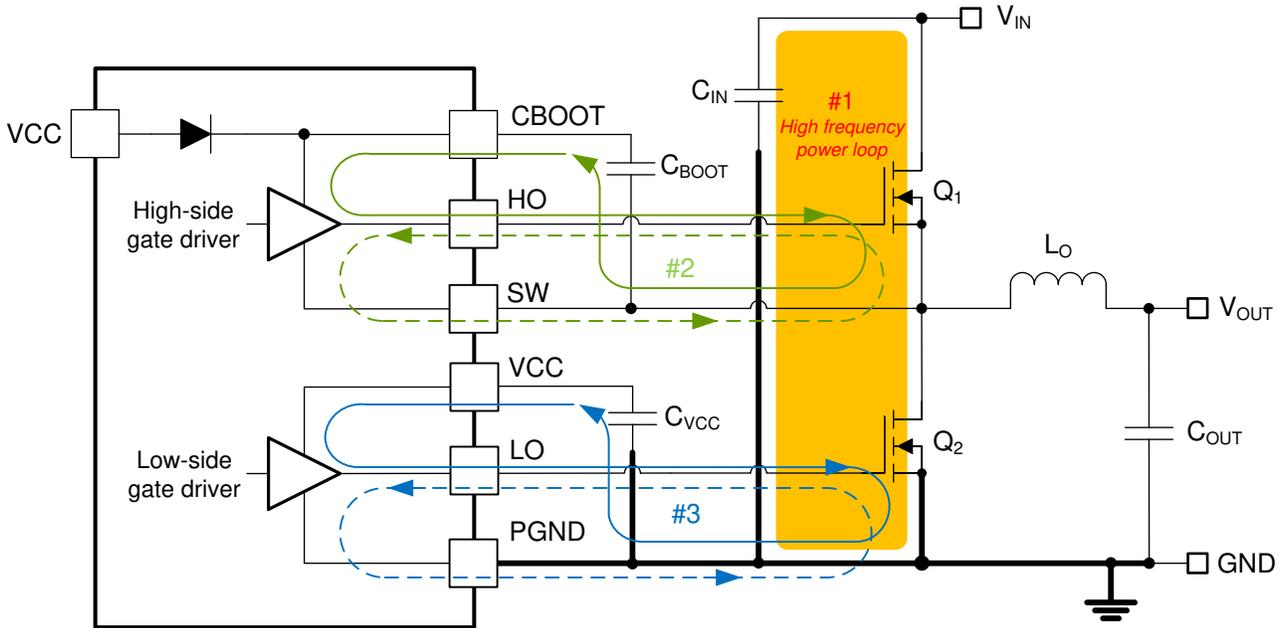

FIG 9-46. DC/DC Regulator Ground System With Power Stage and Gate Drive Circuit Switching Loops
Proper PCB design and layout is important in a high-current, fast-switching circuit (with high current and voltage slew rates) to achieve a robust and reliable design. As expected, certain issues must be considered before designing a PCB layout using the LM5148. The high-frequency power loop of a buck regulator power stage is denoted by loop 1 in the shaded area of Figure 9-46. The topological architecture of a buck regulator means that particularly high di/dt current flows in the components of loop 1, and it becomes mandatory to reduce the parasitic inductance of this loop by minimizing its effective loop area. Also important are the gate drive loops of the high-side and low-side MOSFETs, denoted by 2 and 3, respectively, in Figure 9-46.
- Loop 1: The most important loop area to minimize is the path from the input capacitor or capacitors through the high- and low-side MOSFETs, and back to the capacitor or capacitors through the ground connection. Connect the input capacitor or capacitors negative terminal close to the source of the low-side MOSFET (at ground). Similarly, connect the input capacitor or capacitors positive terminal close to the drain of the high-side MOSFET (at V_{IN}). Refer to loop 1 of FIG 9-46.
- The SW pin connects to the switch node of the power conversion stage and acts as the return path for the high-side gate driver. The parasitic inductance inherent to loop 1 in FIG 9-46 and the output capacitance (C_{OSS}) of both power MOSFETs form a resonant circuit that induces high frequency (greater than 50 MHz) ringing at the SW node. The voltage peak of this ringing, if not controlled, can be significantly higher than the input voltage. Make sure that the peak ringing amplitude does not exceed the absolute maximum rating limit for the SW pin. In many cases, a series resistor and capacitor snubber network connected from the SW node to GND damps the ringing and decreases the peak amplitude. Provide provisions for snubber network
- Loop 2: high-side MOSFET, Q₁. During the high-side MOSFET turnon, high current flows from the bootstrap (boot) capacitor through the gate driver and high-side MOSFET, and back to the negative terminal of the boot capacitor through the SW connection. Conversely, to turn off the high-side MOSFET, high current flows from the gate of the high-side MOSFET through the gate driver and SW, and back to the source of the high-side MOSFET through the SW trace. Refer to loop 2 of Figure 9-46.
- Loop 3: low-side MOSFET, Q₂. During the low-side MOSFET turnon, high current flows from the VCC decoupling capacitor through the gate driver and low-side MOSFET, and back to the negative terminal of the capacitor through ground. Conversely, to turn off the low-side MOSFET, high current flows from the gate of the low-side MOSFET through the gate driver and GND, and back to the source of the low-side MOSFET through ground. Refer to loop 3 of Figure 9-46.